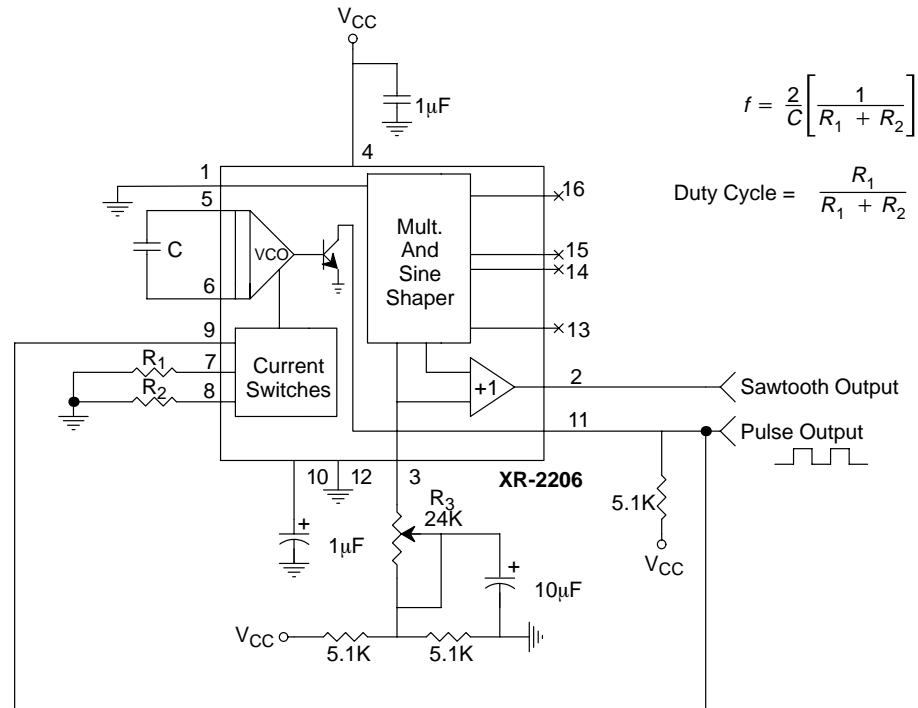

Figure 14. Circuit for Pulse and Ramp Generation.
*Figure 14* shows the circuit for pulse and ramp waveform generation. In this mode of operation, the FSK keying terminal (Pin 9) is shorted to the square-wave output (Pin 11), and the circuit automatically frequency-shift keys itself between two separate frequencies during the positive-going and negative-going output waveforms. The pulse width and duty cycle can be adjusted from 1% to 99% by the choice of  $R_1$  and  $R_2$ . The values of  $R_1$  and  $R_2$  should be in the range of  $1k\Omega$  to  $2M\Omega$ .